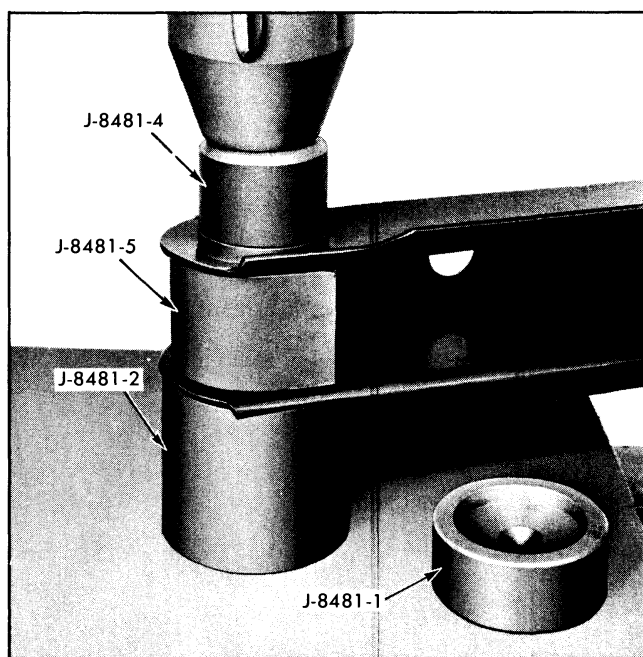

Fig. 3-35 Removing Rear Upper and Lower Control Arm Bushing
2. Rest arm on sleeve J-8481-2 as shown in Fig. 3-35.
2. Press out bushing with remover J-8481-4 as shown in Fig. 3-35. Remove other bushing from arm in same manner.